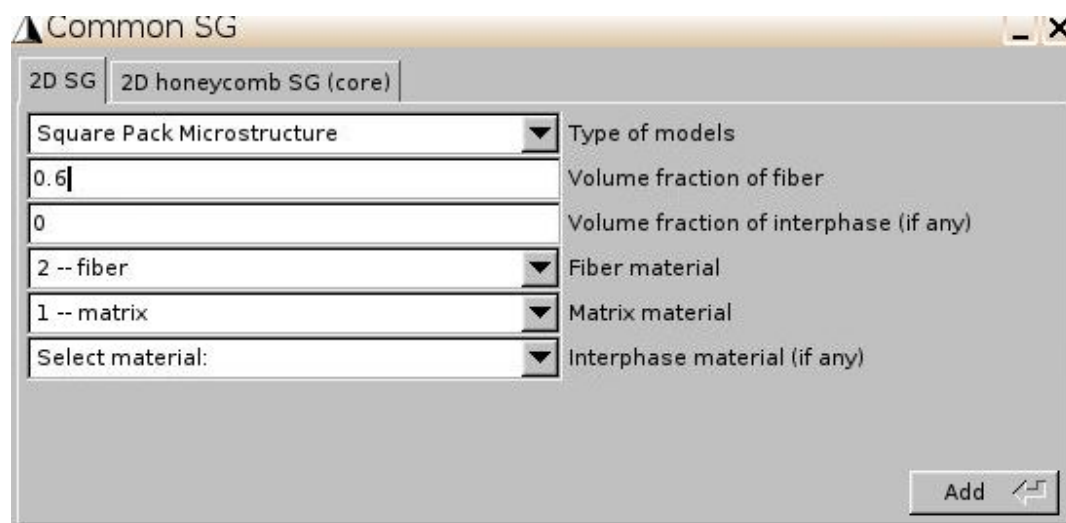

Fig. 5
- Click Geometry->Common SG-> 2D SG->Other 2D SGs. Select Square Pack Microstructure and the corresponding fiber and matrix materials as shown in Fig. 5. In this example, the fiber volume fraction is assumed to be 0.6.